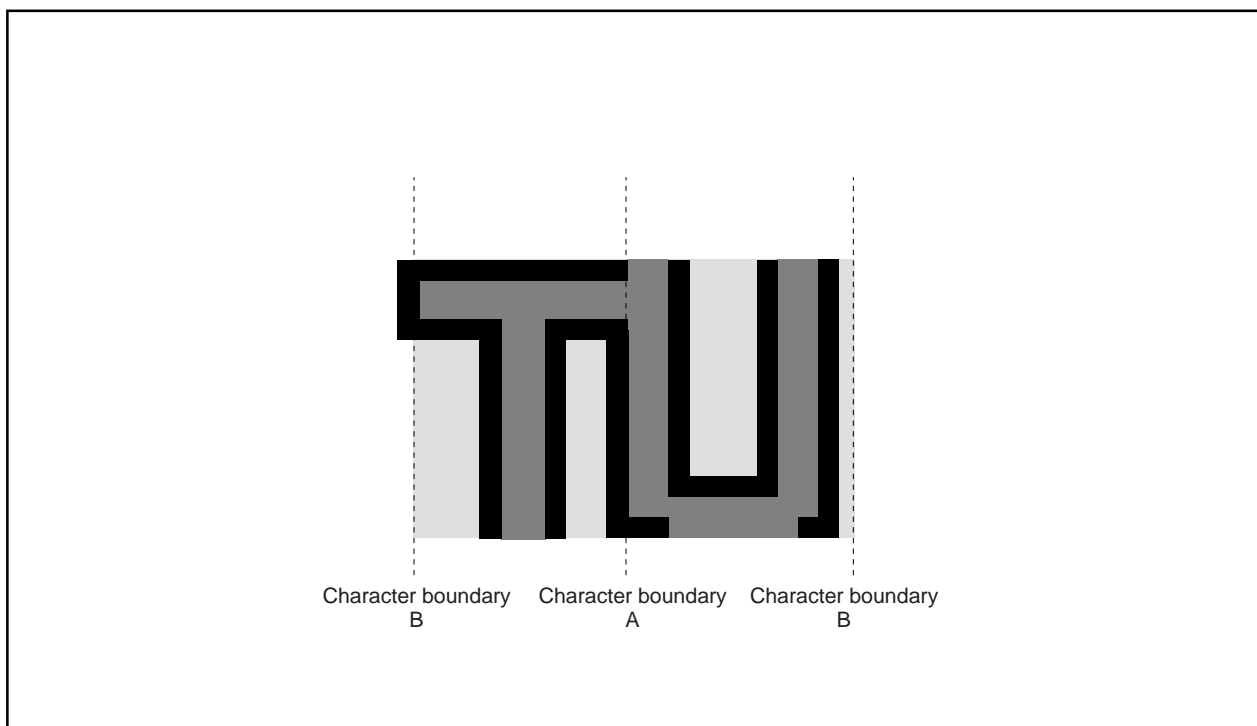

Figure 2.16.37 Border priority
**2 :** When the border dot overlaps on the next character font, the character font has priority (refer to Figure 2.16.37 A). When the border dot overlaps on the next character background, the border has priority (refer to Figure 2.16.37 B).